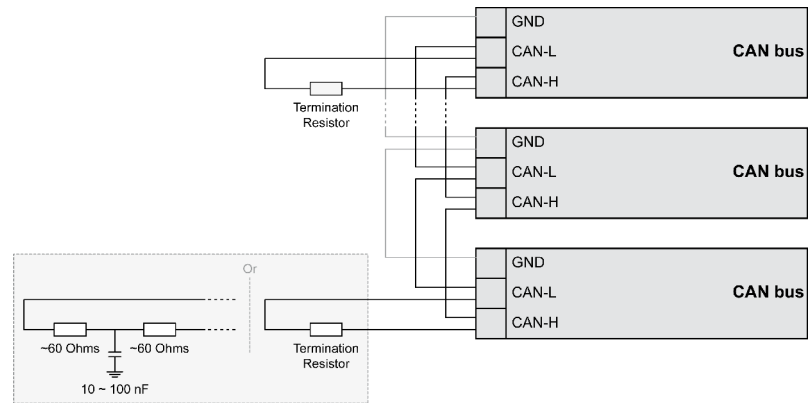

Fig. 32: CAN bus - termination
- Divide the termination resistance into 2x60 Ohms with a center tap connected to ground via a capacitor of 10 to 100 nF (Fig. 32).